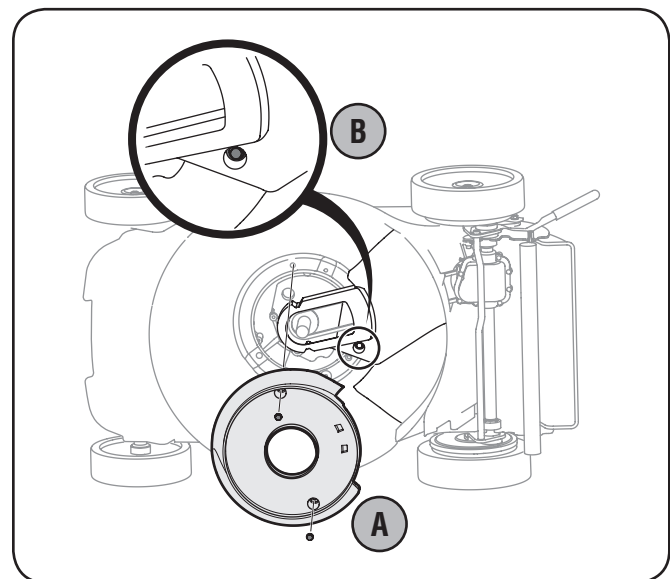

Figure 7-2
- a. Remove the self-tapping screws that secures the engine baffle to the deck. See Figure 7-2. Remove engine baffle.
- b. Loosen self-tapping screw that secures deck baffle to the deck. See Figure 7-2.